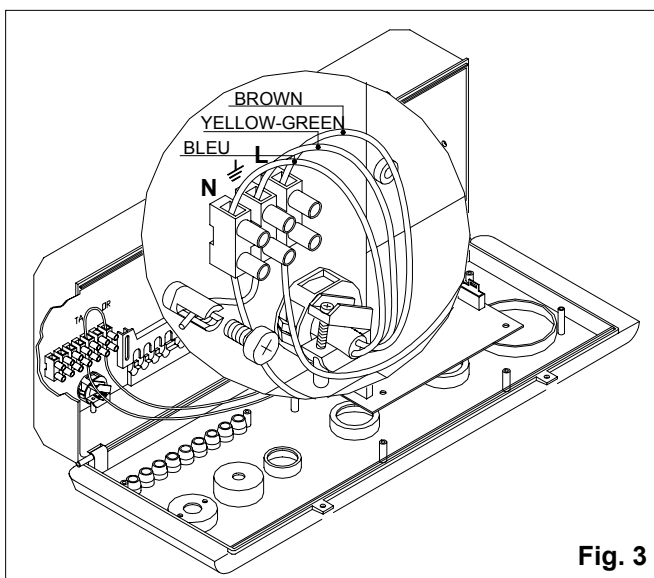

Fig. 3
- connect the yellow/green wire to the terminal marked with the earth symbol "⊥" (see fig.3).